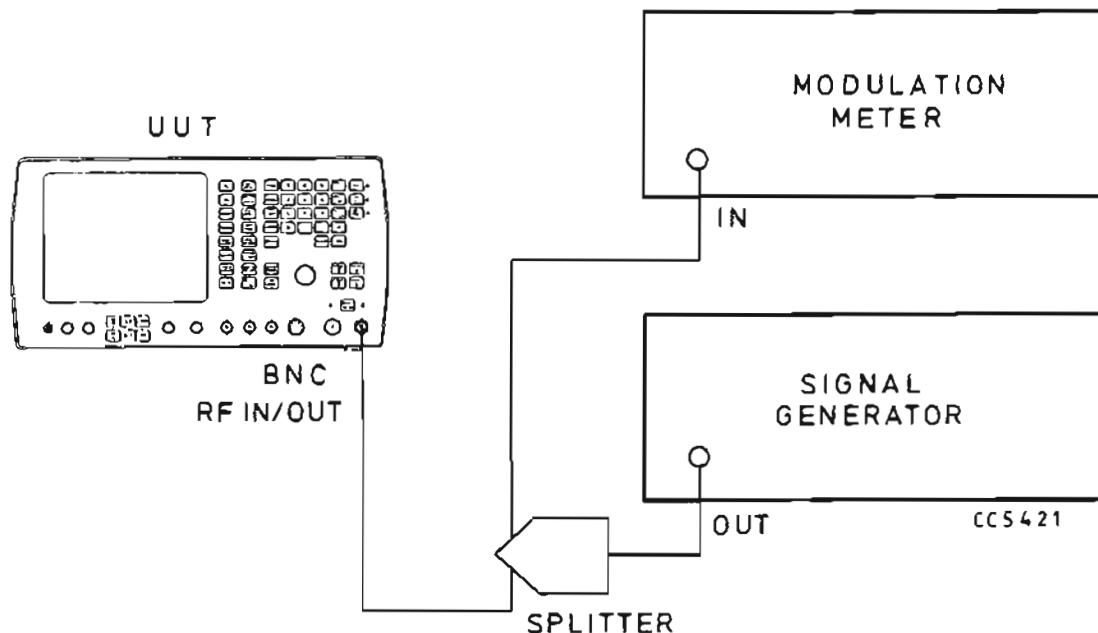

Fig. 4 Test equipment connections for modulation meter a.m. & f.m. monitor accuracy performance checks
- (1) Connect the equipment as shown in Fig. 4.
- (2) Set the u.u.t. to TX, FM, 0.3 - 3.4 kHz BAND PASS filter, distortion/SINAD/SN off, b.n.c. input socket.
- (3) Set the signal generator to carrier frequency 500 MHz, level 13 dBm, 25 kHz f.m., 1 kHz internal modulation rate.
- (4) Set the modulation meter to monitor f.m. in a 0.3 to 3.4 kHz bandwidth.
- r (5) Check that the f.m. level indicated on the u.u.t. display is within $\pm 6\%$ of reading ± 1 digit of modulation deviation indicated on the modulation meter.
- (6) Repeat the above for random carrier frequencies from 1.5 to 1000 MHz and random deviation between 0 and 25 kHz.
- (4) Connect the signal generator to the u.u.t. N-type input socket (see Fig. 4) and check that the u.u.t. modulation meter reads 10 kHz f.m. deviation.
- (5) Set the u.u.t. to one port duplex mode and repeat the above checks with the signal generator output set to 20 mW.